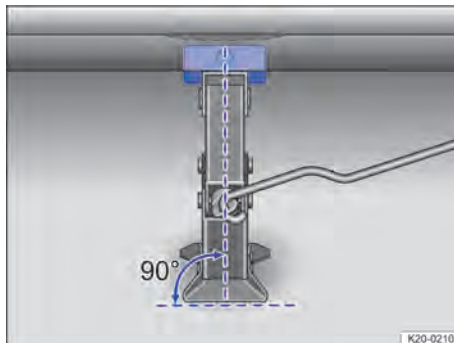
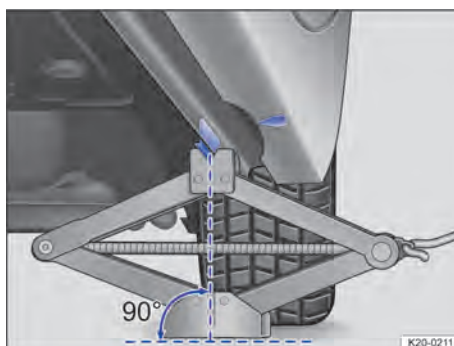

Fig. 229 Correct alignment of the jack.
Fig. 230 Correct alignment of the jack.
4. Make sure that the entire surface of the foot of the jack is resting securely on the ground and that it is positioned vertically directly beneath the jacking point → Fig. 229 and → Fig. 230.
5. Position the jack and simultaneously continue to crank the claw up until it is in position around the jacking point underneath the vehicle → Fig. 230.
- Fit the jack only at the described jacking points. The jack claw must grip the vertical rib under the door sill securely → Fig. 230.